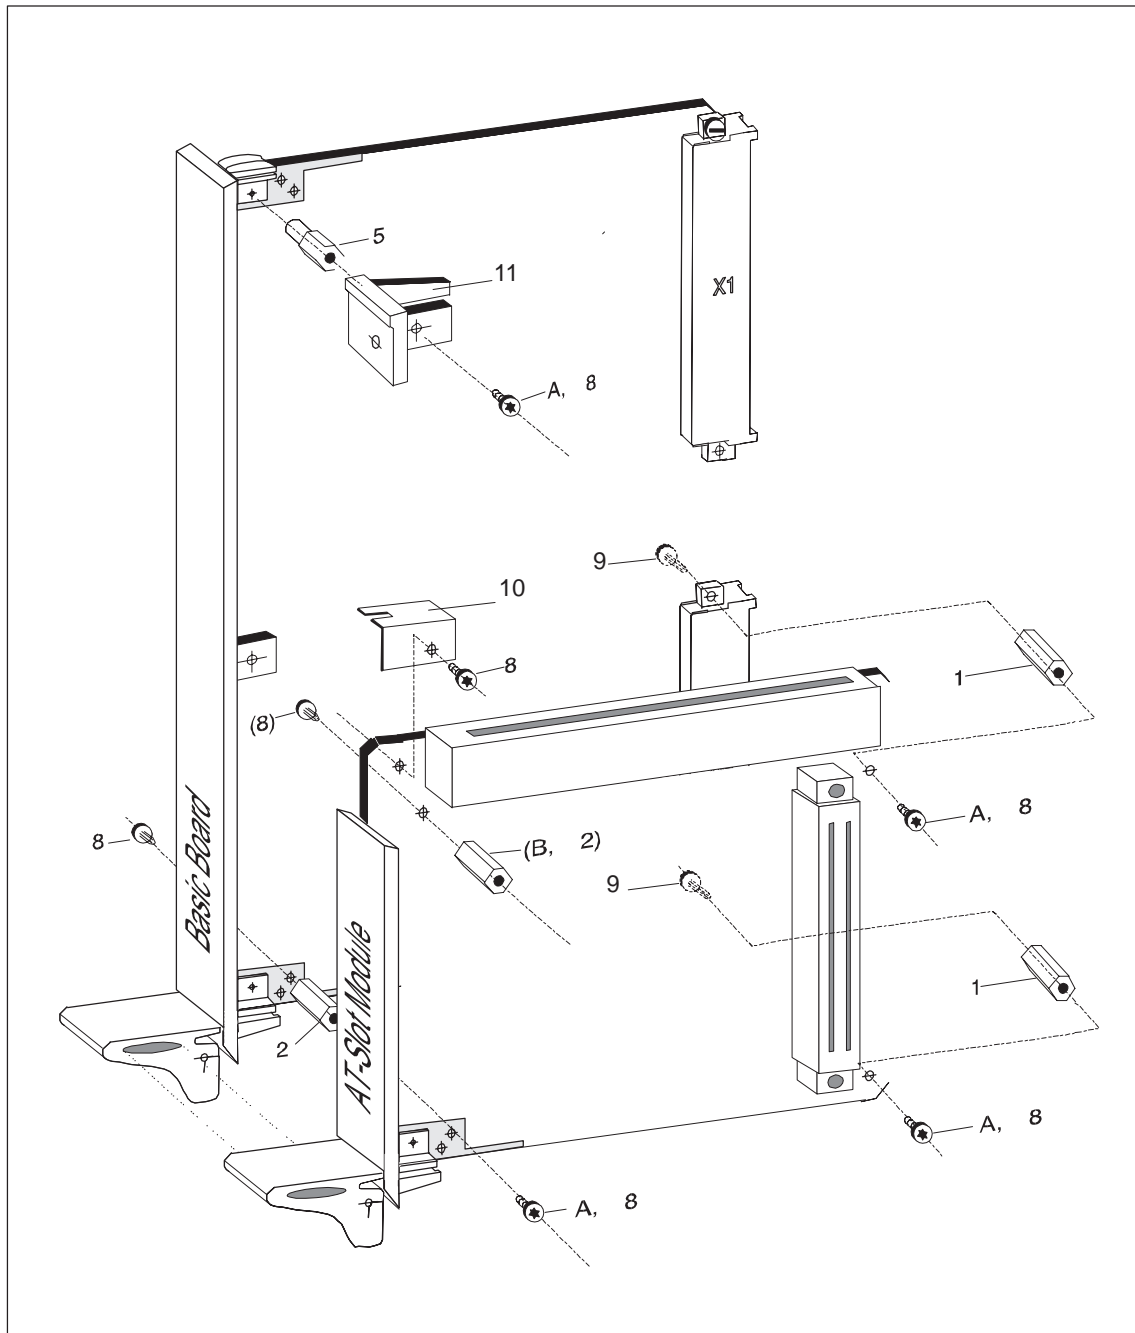

Figure 2-8 Assembly of an AT Slot Module onto the Basic Board
Proceed as follows according to Figure 2-8 in order to assemble the modules:
1. Screw the spacer “2” and the spacer bolt “5” onto the basic board according to Figure 2-8. Insert the screw “8” from the solder side (the side of the module provided with a cover). Make sure that you use the inner hole of the two adjacent holes.